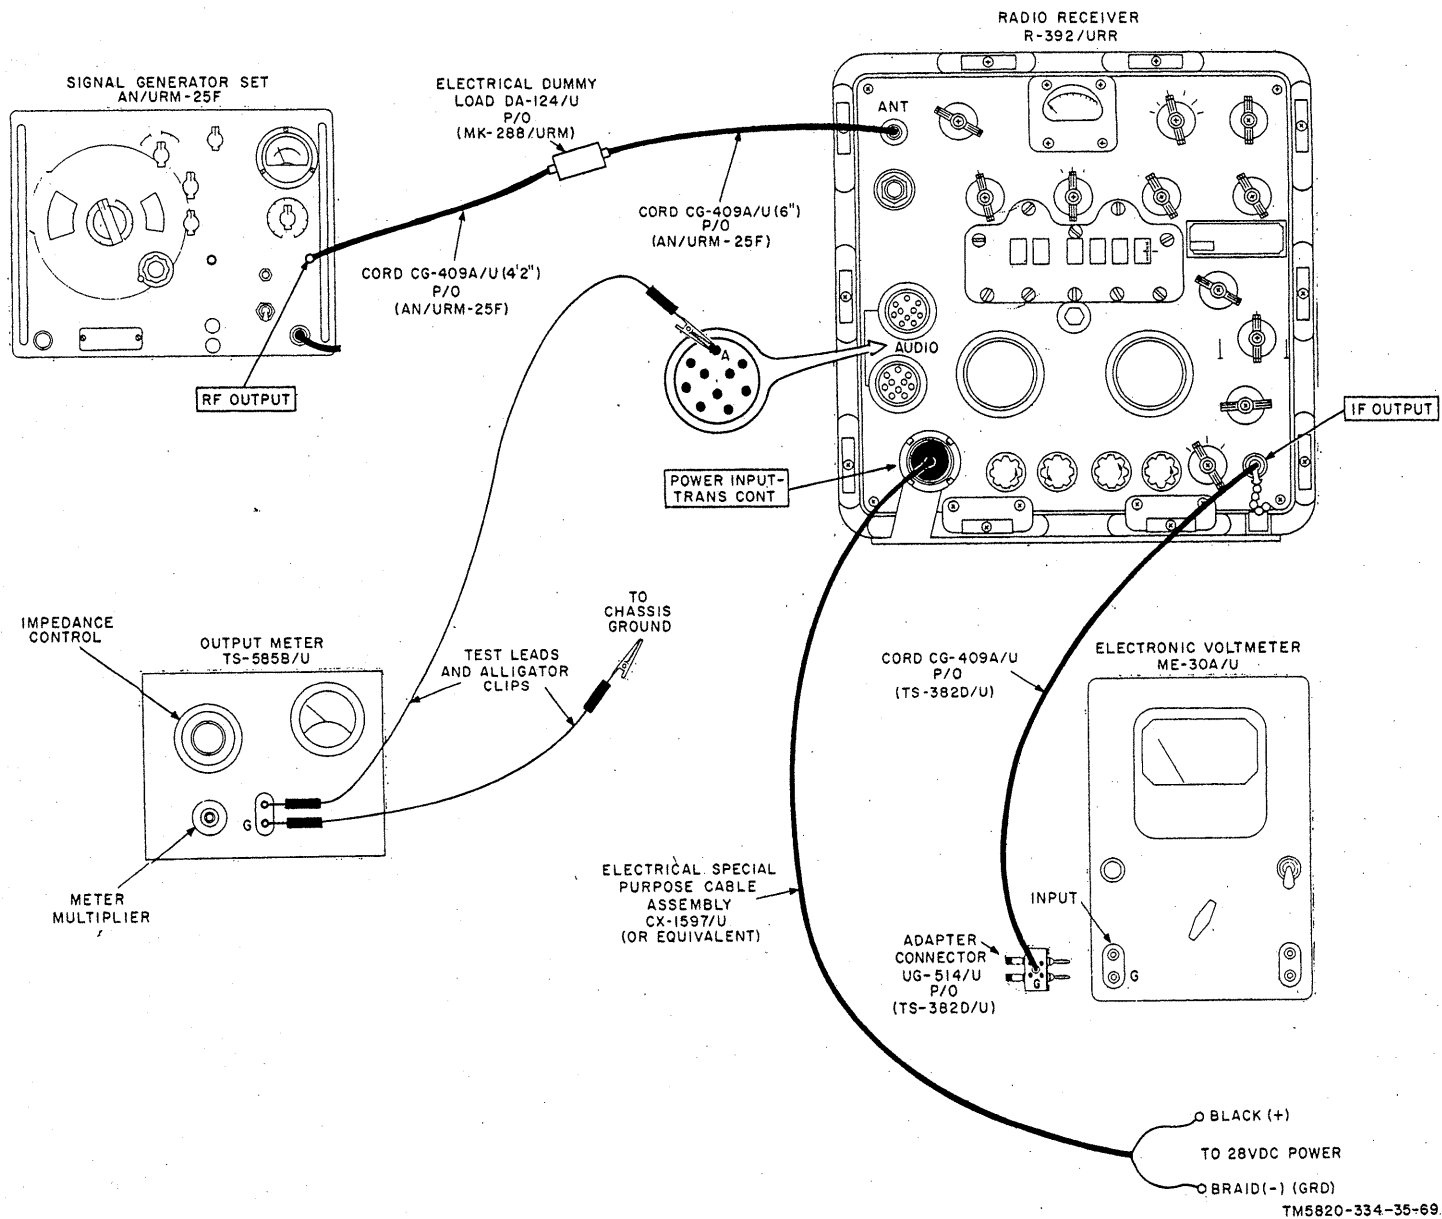

Figure 69. Sensitivity test.
96. Sensitivity Test (fig. 69)
b. *Test Connections and Conditions.* Except for Electronic Voltmeter ME-30A/U, connect the equipment as shown in figure 69. Do not connect Electronic Voltmeter ME-30A/U until instructed to do so in the test procedures of step No. 13.
| 13 | AN/URM-25F: BAND SWITCH: 0.6-1.5. TUNING: 1.5 MEGA-CYCLES. ATTENUATOR: 10. FUNCTION SWITCH: CW. MICROVOLTS: MAX. POWER: ON. ME-30A/U: Range selector switch: 1. Note. TS-585B/U not required for this step. | MEGACYCLES: 01. KILOCYCLES: 500. BAND WIDTH: 4 KC. BFO: OFF. AGC: ON. Function switch: NORMAL. RF GAIN SQUELCH THRESH: fully clockwise. AF GAIN: fully counterclockwise. | a. Connect ME-30A/U to the receiver as shown in figure 69. b. Adjust the AN/URM-25F SET RF OUTPUT control for a full-scale (10) indication on the MICROVOLTS scale of the panel meter. c. Adjust the AN/URM-25F TUNING control (in the vicinity of 1.5 mc) for a peak indication on the ME-30A/U. d. Adjust the receiver ANT TRIM control for a peak indication on the ME-30A/U and note this indication. | a. None. b. None. c. None. The ME-30A/U indicates not less than 24 millivolts (.24 on the 0-1.0 R.M.S. VOLTS scale). |
| 13 | AN/URM-25F: BAND SWITCH: 0.6-1.5. TUNING: 1.5 MEGA- CYCLES. ATTENUATOR: 10. FUNCTION SWITCH: CW. MICROVOLTS: MAX. POWER: ON. ME-30A/U: Range selector switch: 1. Note. TS-585B/U not required for this step. | MEGACYCLES: 01. KILOCYCLES: 500. BAND WIDTH: 4 KC. BFO: OFF. AGC: ON. Function switch: NORMAL. RF GAIN SQUELCH THRESH: fully clockwise. AF GAIN: fully counterclockwise. | a. Connect ME-30A/U to the receiver as shown in figure 69. b. Adjust the AN/URM-25F SET RF OUTPUT control for a full-scale (10) indication on the MICROVOLTS scale of the panel meter. c. Adjust the AN/URM-25F TUNING control (in the vicinity of 1.5 mc) for a peak indication on the ME-30A/U. d. Adjust the receiver ANT TRIM control for a peak indication on the ME-30A/U and note this indication. | a. None. b. None. c. None. The ME-30A/U indicates not less than 24 millivolts (.24 on the 0-1.0 R.M.S. VOLTS scale). |